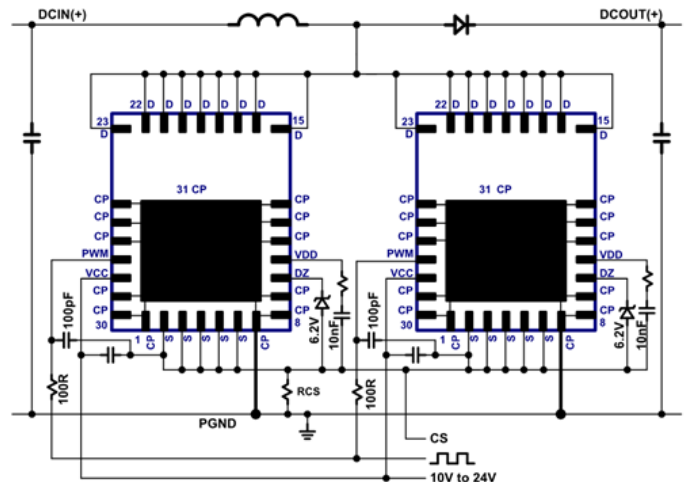

Fig. 25. Boost schematic using two parallel ICs
For some applications it is desirable to parallel ICs in order to reduce conduction losses and temperatures. Two GaNFast power ICs can be connected in parallel in a PFC boost application working in boundary-conduction mode (BCM) only. This configuration is shown in Fig. 25. The paired pins that are connected together include the drain pins (D), the source pins (S), the  $V_{CC}$  pins, the PWM pins, and the  $D_Z$ . A single  $D_Z$  diode can be shared by both ICs. The  $V_{DD}$  pins are not connected together and require separate  $V_{DD}$  supply capacitors ( $C_{VDD1}$ ,  $C_{VDD2}$ ) and separate turn-on current set resistors ( $R_{DD1}$ ,  $R_{DD2}$ ). Each IC should have its own local  $V_{CC}$  supply filter capacitor ( $C_{VCC1}$ ,  $C_{VCC2}$ ). The PWM pins can have a single filter resistor ( $R_{PWM}$ ) but separate filter capacitors ( $C_{PWM1}$ ,  $C_{PWM2}$ ) should be placed at the PWM pin of each IC. When designing the PCB layout for the two paralleled ICs, the drain and source connections should be made as symmetrical as possible two avoid any parasitic inductance or capacitance mismatch.